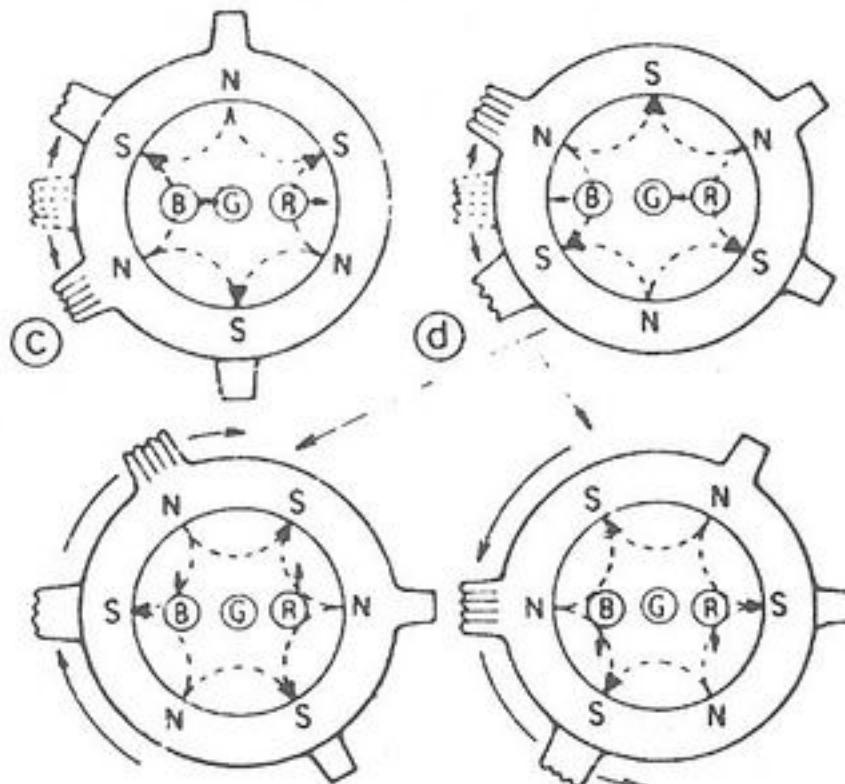

FIGURE 6
4. Move the two Purity Magnets and bring the Magenta belt to the mechanical center of the screen (See Fig. 5) The vertical center position should be set VRS to $-5/64"$ (-2 MM) as shown in Fig. 6.